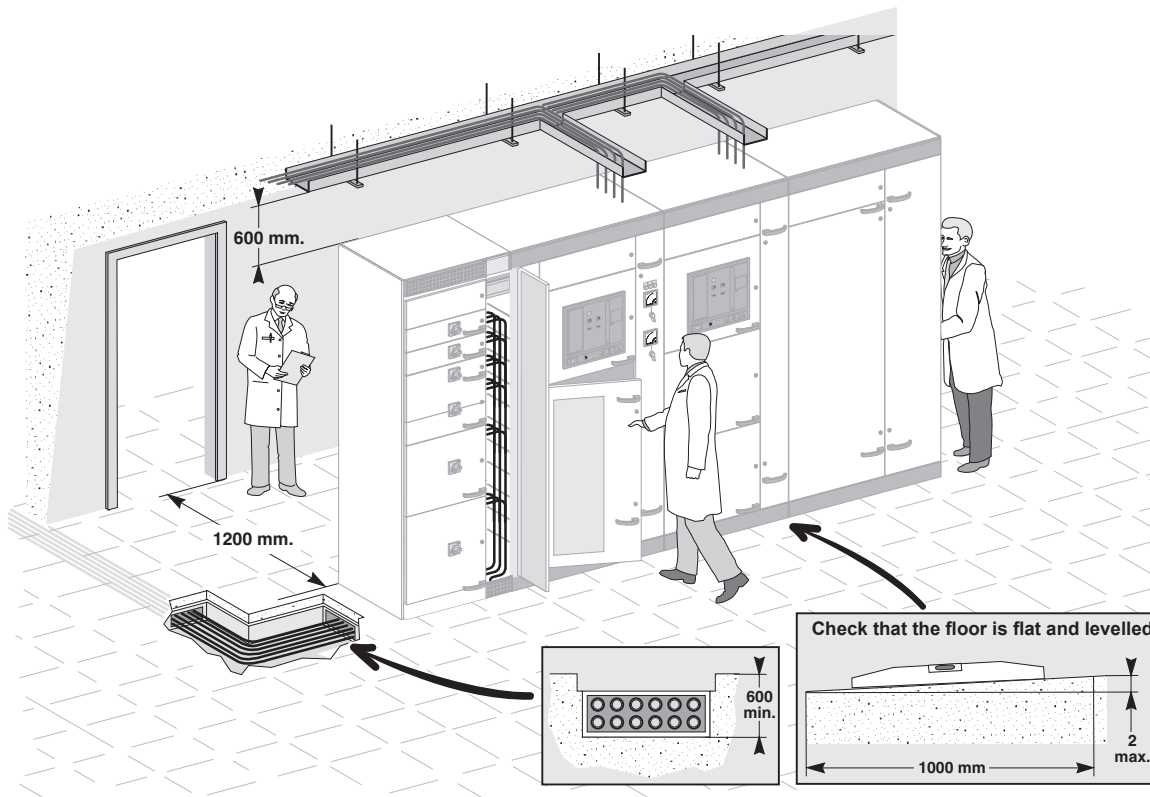

Fig. 6: Opening for cable routing via the bottom
- The Blokset installation site must be clean. The floor must be flat and level deviations (≤ 2 mm/m) (see Fig. 6).
- Leave at least 1200 mm of free space (see Fig. 6), to enable the opening for the doors and operator access.
- At least 1200 mm (or 1600 mm for 6300 A) of free space (see Fig. 6) must be left in front of Blokset to allow the doors to open completely, maintenance or, wherever applicable, use of a lifting device.